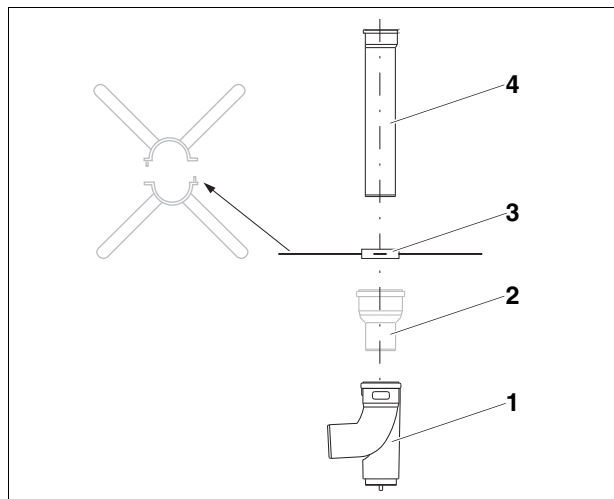

Fig. 9 Installing spacer
- Place the two halves of the spacer (Fig. 9, **Item 3**) on both sides around the pipe and put them together.
- Coat gasket in the load bearing elbow and all flue gas pipes (Fig. 9, **Item 4**) with CENTROCERIN® anti-seizing compound.